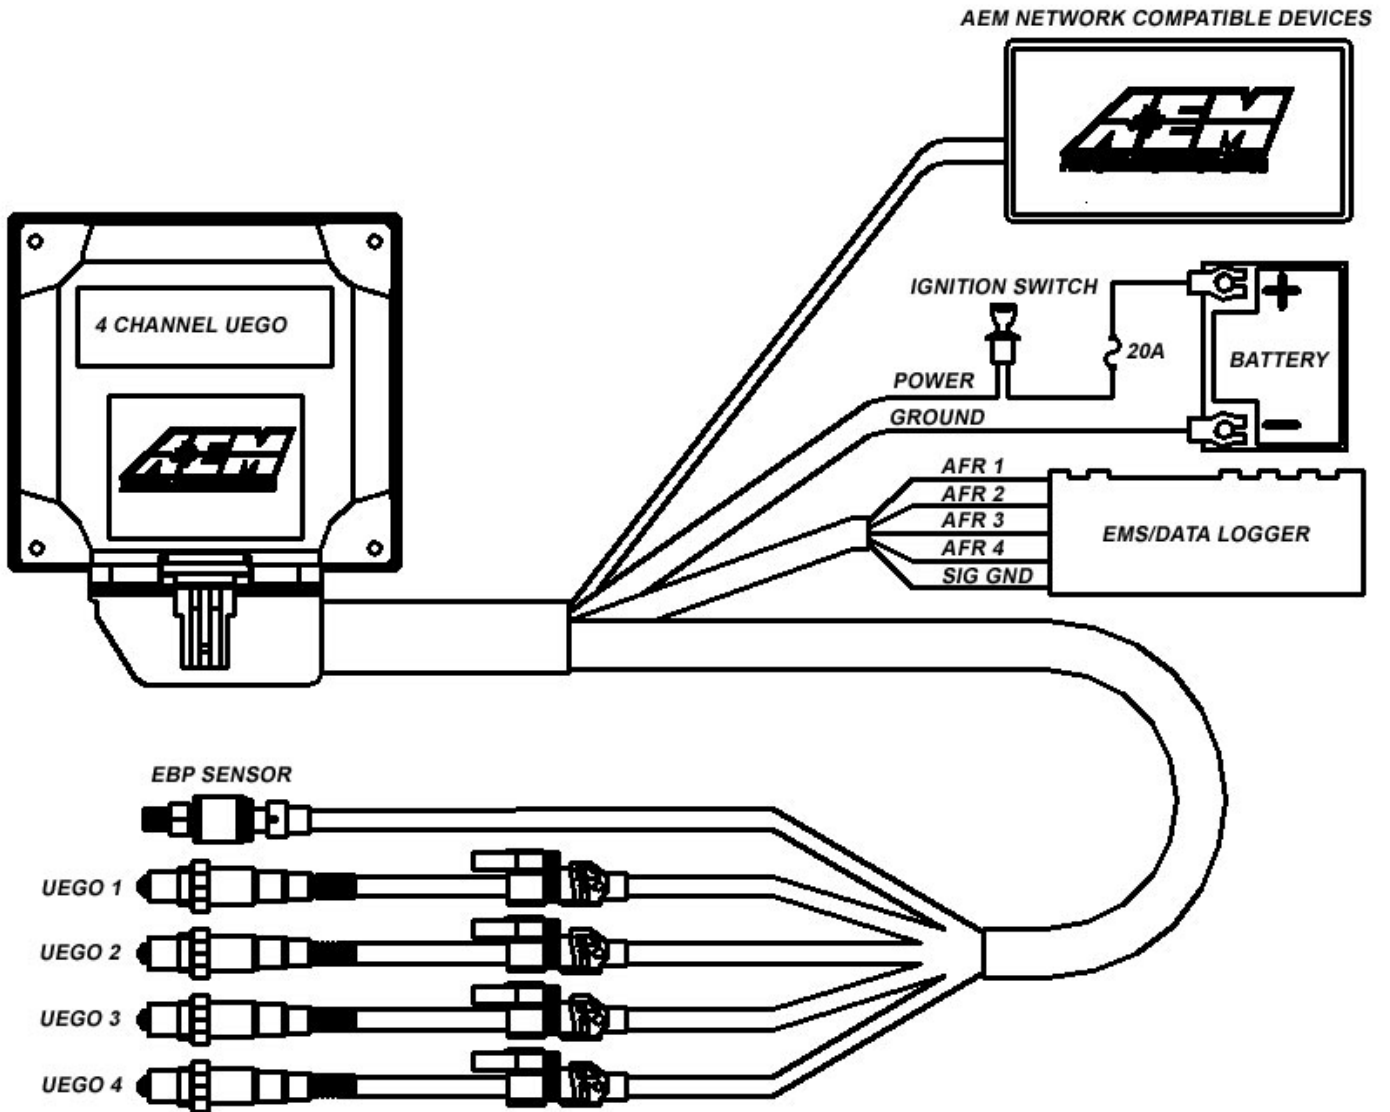

FIGURE 1. WIRING DIAGRAM
3. Connect the flying lead analog output wires as shown in Figure 1.
6. Install the 30-2064 EBP sensor kit* and connect it as shown in Figure 1.